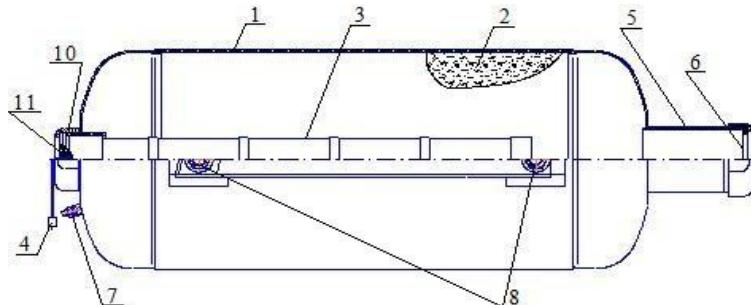
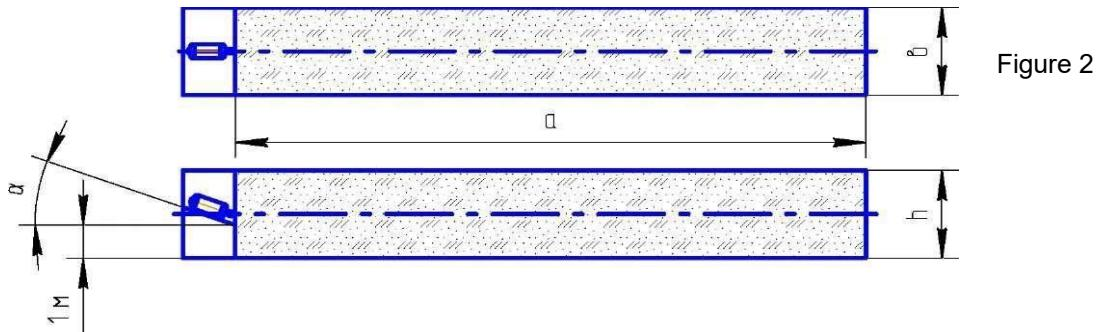
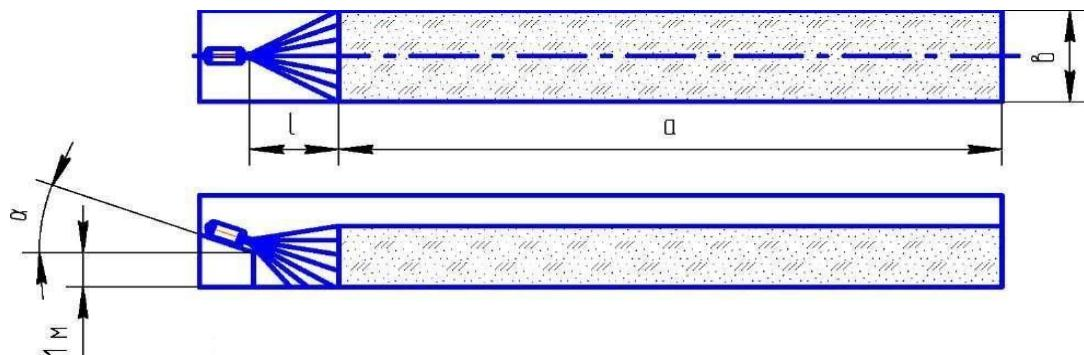
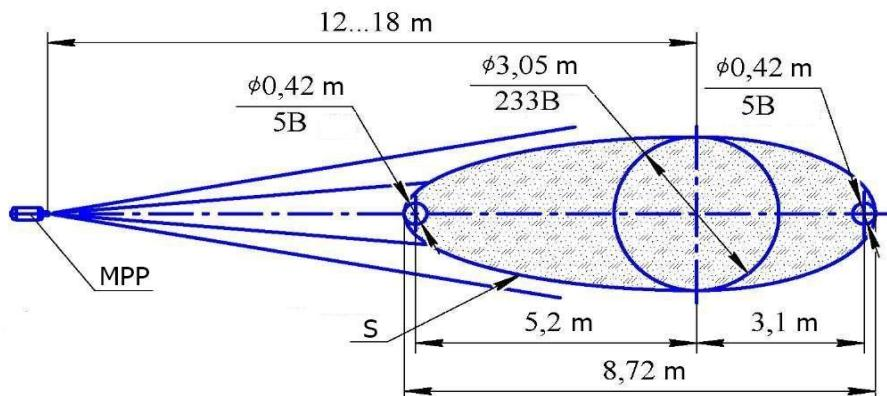

Figure 1
Figure 2
Figure 3. Extinguishing effect on Class A fires and on Class B fires.
Figure 4. Area sketch of the protection area when extinguishing local fires
4.1 MPH (Figure 1.) consists of the pressure body 1, which includes: extinguishing powder (HP) 2 and cold gas generator (GSP) 3 with electric fuse 4. On the other side of the hood is the atomizer insert 5, as well as the outlet, which closes with a membrane 6. The module is equipped with a grounding terminal 7. The upper part of the MPH is equipped with a holder 8.
4.3 After receipt of an electrical impulse to the electrical output switch 4GSP 3 (Figure 1,2), the gas generator is activated and generates a cold gas that puts the interior of the container under pressure. As soon as the necessary pressure is present, the membrane opens 6 and the extinguishing powder comes out of the module through the atomizer 5.
6.2 Suspension 8 can be mounted under the ceiling (Figure 1) or suspension 9 (Figure 2) can be attached to the wall. Please mark the places for attaching the suspension as on the (Figure 3) and on the wall acc. (Figure 4).
6.6 The configuration of the powder dispersion and the representation of the extinguishing surfaces for ceiling mounting are shown in Figure 4 and Tables 2 and 3, and for wall mounting in the following Figures 3 and 4 and Table 1.